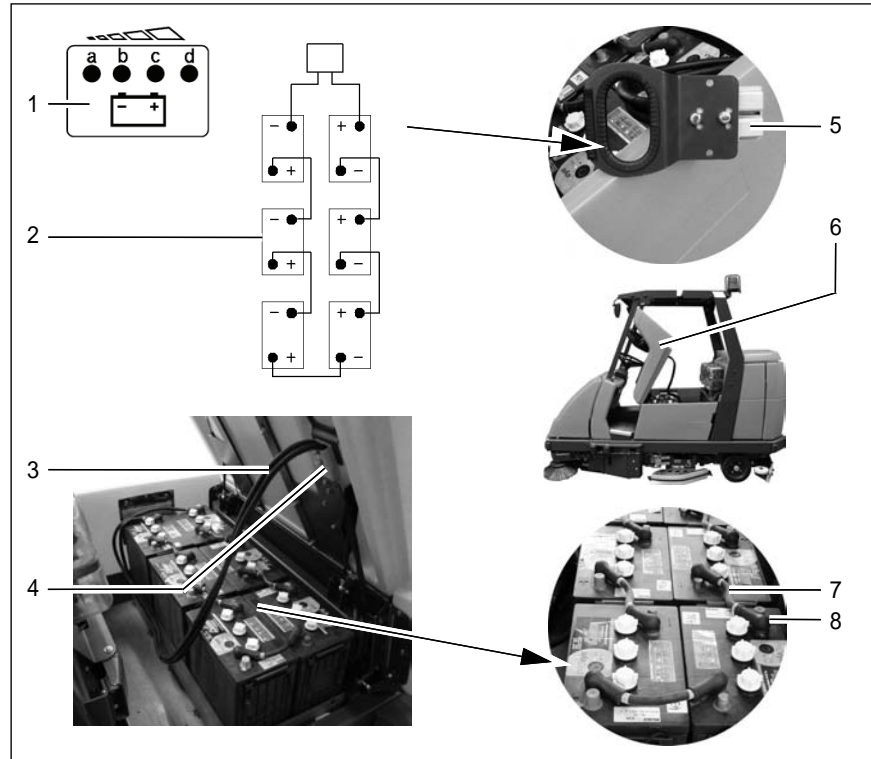

Fig. 27
The seat console (Fig. 27/6) must be open during the battery charging process to prevent the development of explosive oxyhydrogen!
We recommend charging the battery when at least one dot of the battery indicator has gone out after operating the machine. The indicator (Fig. 27/5) also indicates the charge status of the batteries during the charging process.
1. Connect the battery plug (Fig. 27/4) to the adapter supplied.